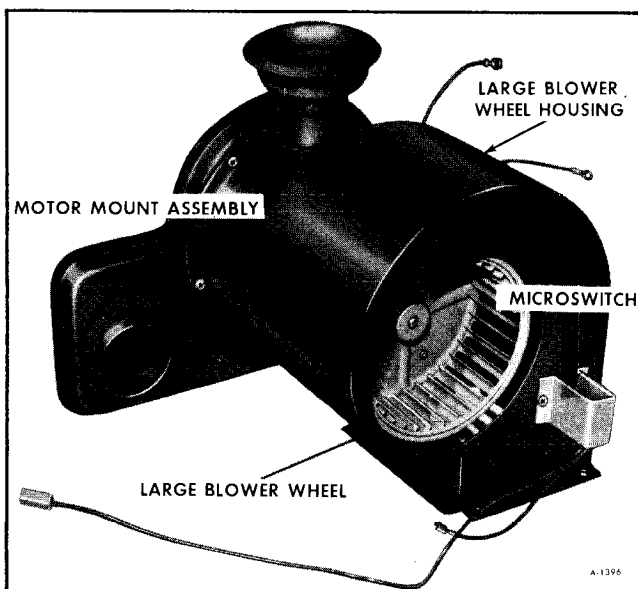

Figure 30-Blower Assembly - Removed
5. Remove blower assembly (figure 30).